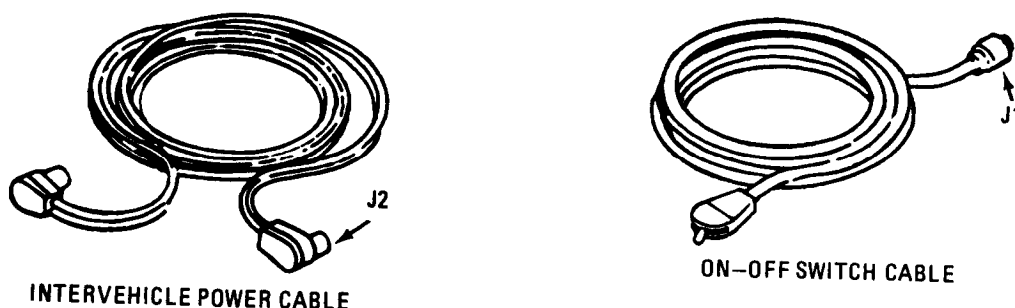

Figure 3-2.1 Pump Assembly Cables.
Page 3-4. Add the following Paragraph 3-8.1 and figure 3-2.1 immediately after paragraph 3-8:
(1) Unplug and inspect intervehicle power cable (figure 3-2.1) for damaged or corroded connectors.
(2) Clean connectors to obtain a good connection at J2 connector at Junction Box and connector and adapter at the vehicle receptacle.
(3) Replace cable assembly if damaged.
(1) Inspect ON - OFF switch cable (figure 3-2.1) for damage or corroded connectors, damaged or frayed cable, or damaged switch.
(2) If cable or switch are damaged, replace cable assembly.
(3) Remove connectors from J1 receptacle and vehicle receptacle. Install new cable in reverse order. Clean connectors to obtain a good connection at J1 connector at Junction Box. If connector is damaged, notify Organizational Maintenance for replacement.